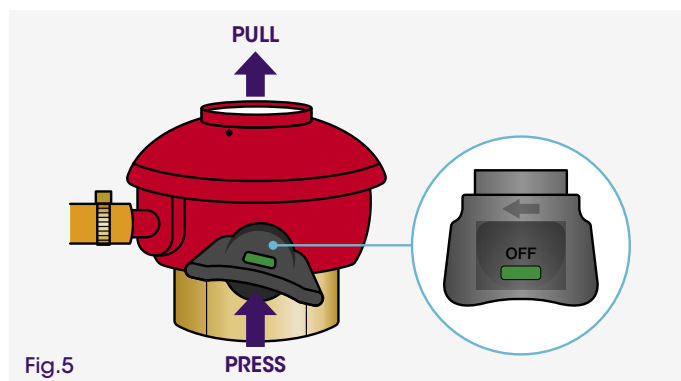

Fig.5
- The Quick-On+ handle **5** is in the OFF position (it closes by turning it a clockwise half turn until the stop: red flame on the handle **5** and pulling upwards at the same time (Fig. 5).